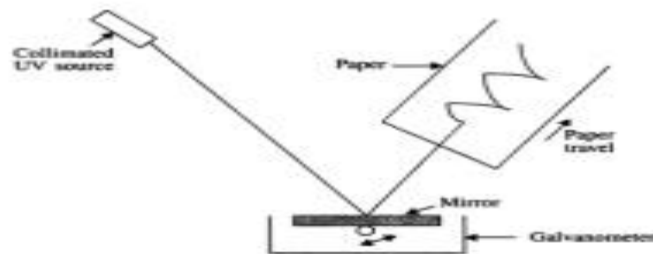

figure 9: Galvanometric type optical recorder.
In many applications where the amount of deflection is more important than wave shape, this may be acceptable. One solution to the problem of curvilinear recording is to use a pivoted pen motor assembly, as shown in Figure 8 which translates the curvilinear motion of the moving coil to the rectilinear motion at the pen’s tip. Another way is to increase the length of the pen so that it is very large compared to the width of the chart as shown in Figure 9. The trace then will be nearly linear and is acceptable in many applications. This is called *pseudorectilinear* technique.
5. *Optical mechanism*. It uses a mirror mounted on the galvanometer to reflect a light (generally ultra violet) beam from a collimated light source onto the photosensitive chart paper. See figure 9. The paper is exposed to ultraviolet light that develops the trace as paper comes out of the recorder. This paper should be stored in a light-tight box, otherwise it will fade out with time.